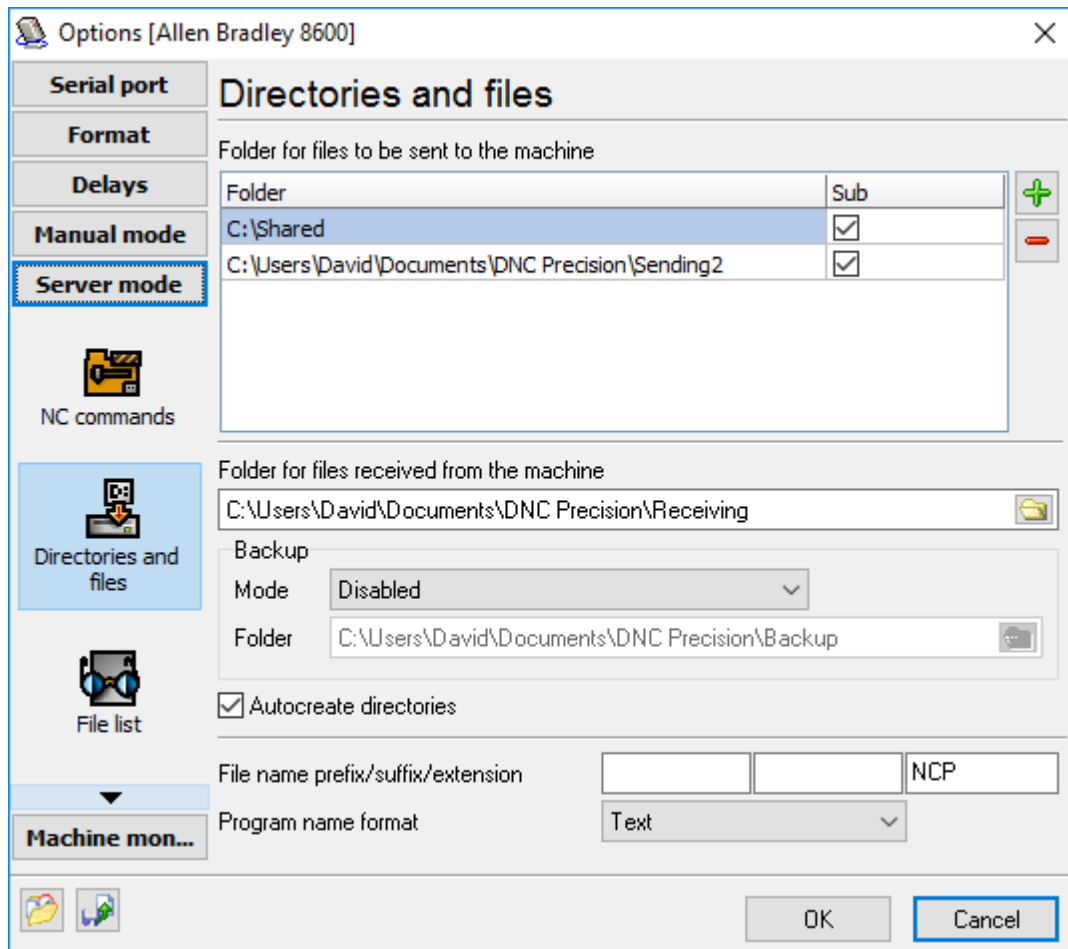

Fig.2 Directories and files
- **Send a file** – once the DNC server receives this command, it will queue the file the name of which was transmitted in the command body for sending. The final filename is generated from the prefix, the suffix and the extension specified on the "Folders and files" tab (fig.2).
- **File list** – once the DNC server receives this command, it will queue the contents of the folder (or folders) specified on the "Directories and files" tab (fig.2) in the "**Folder for files to be sent to the machine**" list for sending.
You may define multiple folders with subfolders to search a program requested. DNC Precision will send first found file that match your file name prefix, suffix and extension (see fig.2). If your folders contains files with different extension you may define all your extensions in the "Extension" field. In this case all extensions are semicolon delimited. For example, if your folders contain files like \*.nc, \*.ncp, \*.iso, then you may define the extension string like "nc;ncp;iso" (w/o quotes). In this case the program will use all these extension for search.